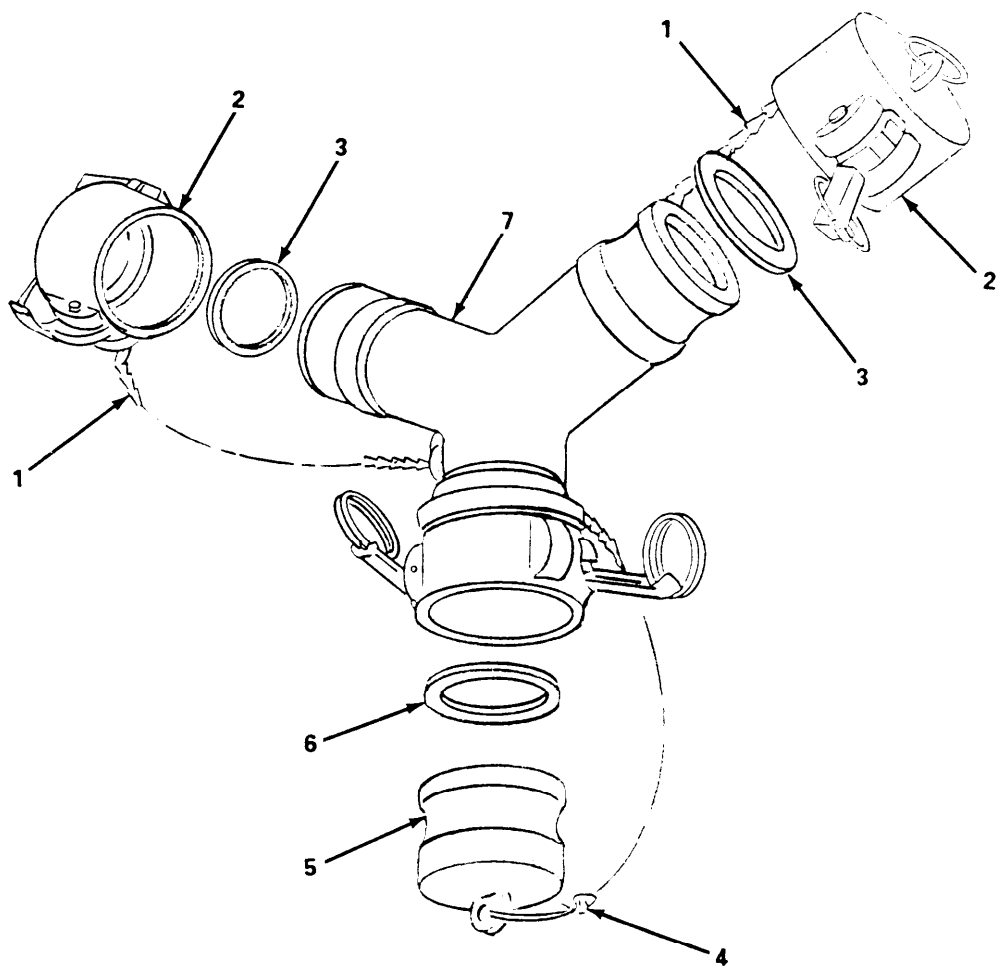

Figure 4-11. Wye Fitting Assembly, Disassembly/Assembly.
a. Repair. (figure 4-11)
(1) Disassembly.